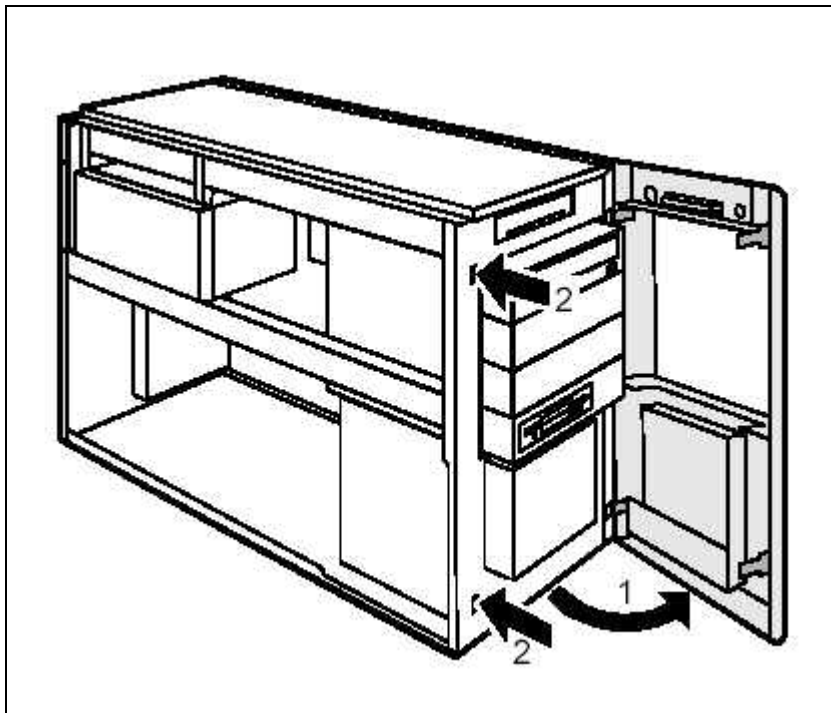

Fig. 50: Removing the front panel
3. Detach the unlocking lever (2/ Fig. 50 / p. 95) and open the front panel (1/ Fig. 50 / p. 95).